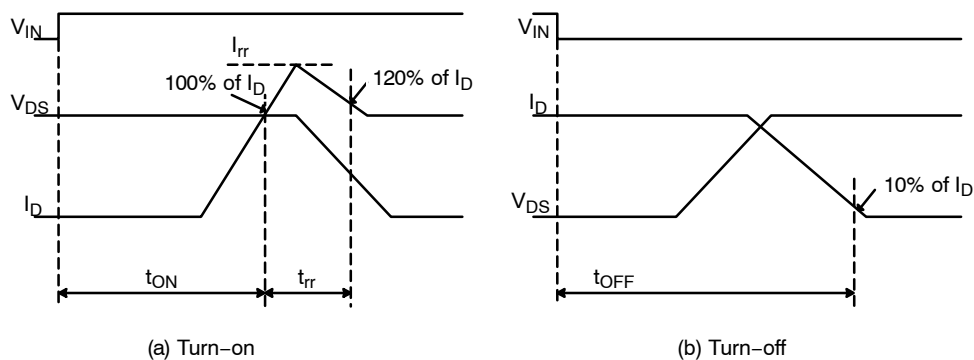
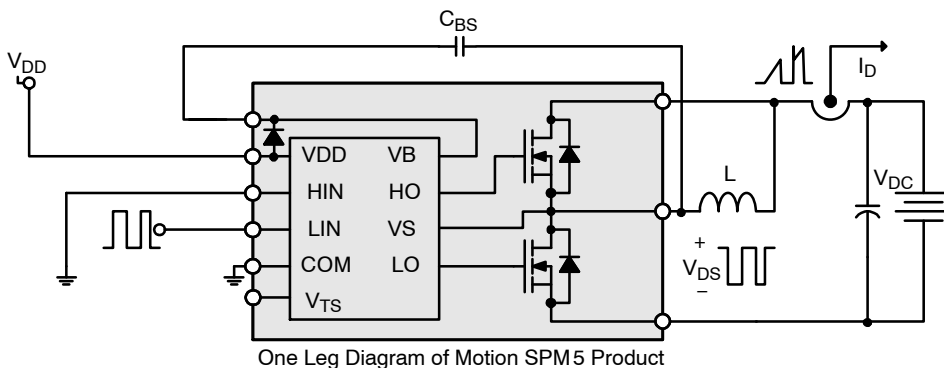

Figure 6. Switching Time Definitions
Figure 7. Switching and RBSOA (Single-Pulse) Test Circuit (Low-side)
6. t_{ON} and t_{OFF} Include the Propagation Delay Time of the Internal Drive IC. Listed Values are Measured at the Laboratory Test Condition, and They Can be Different According to the Field Applications Due to the Effect of Different Printed Circuit Boards and Wirings. Please see Figure 6 for the Switching Time Definition with the Switching Test Circuit of Figure 7.